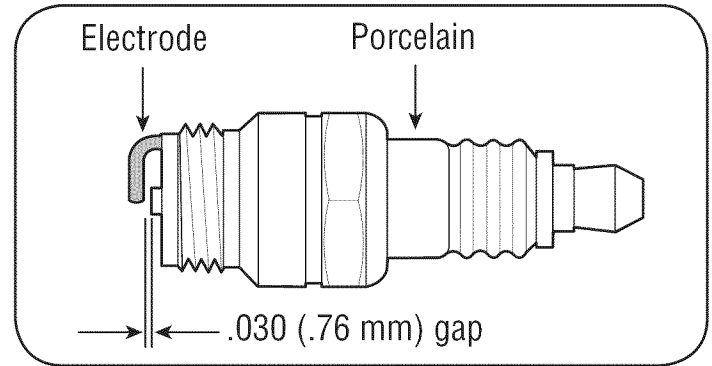

Figure 16
2. Remove and inspect the spark plug. Check gap to make sure it is set at .030". See Figure 16.